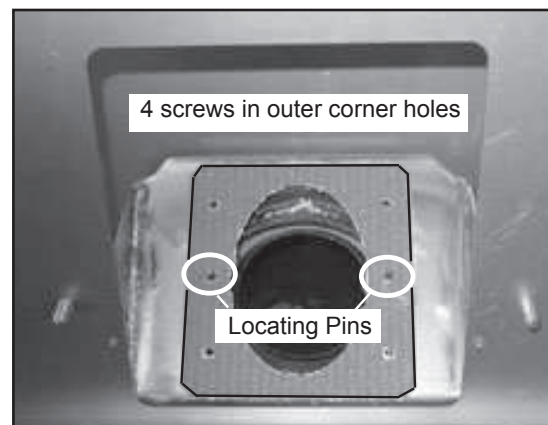

Figure 35.2- Install Orange Flue Gasket
3. Place the orange flue gasket over the locating pins on the exhaust flue transition on the back of the fireplace. **Figure 35.2.**
3. Place the orange flue gasket over the locating pins on the exhaust flue transition on the back of the fireplace. **Figure 35.2 on page 35.**